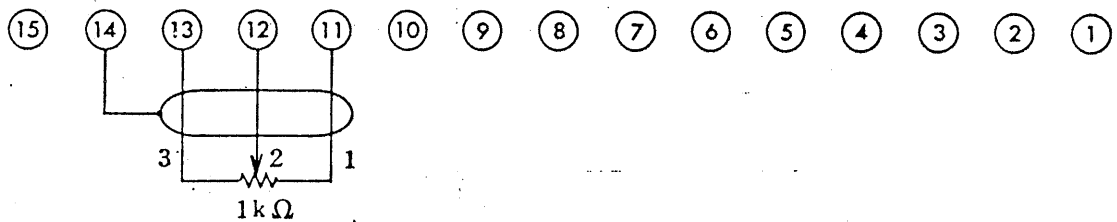

Figure 2-12-3
3. Connect a 1 k $\Omega$  variable resistor to the terminal board on the rear panel, as shown in Fig. 2-12-3. The variable resistor should be a 10-turn potentiometer.